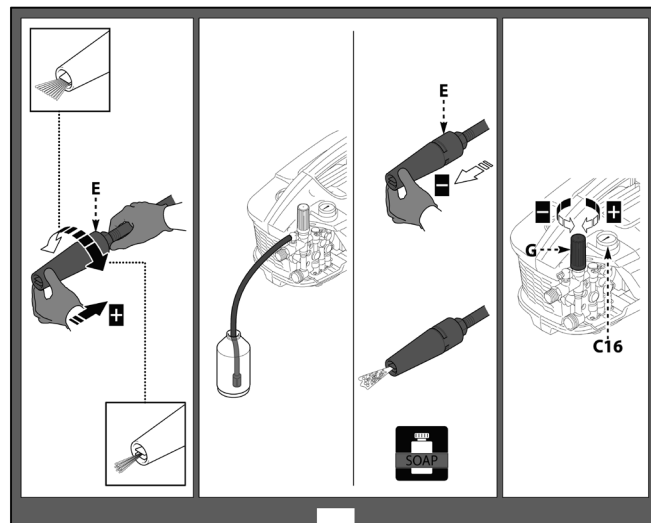

Fig.5
- 4.10. The trigger has a safety lock incorporated. To engage it, clip the lock into depression on the handle. To unlock, unclip the lock from handle (fig.5 D, I, fig.1 D).
- 4.11. To adjust the nozzle spray pattern, rotate the lance nozzle as shown in fig.5 E.
- 4.13. **TRIGGER** has a safety lock. To engage: clip the lock into the depression on the handle. To release: unclip the lock from the handle (fig.5 D, I, fig.1 D).
- 4.14. **NOZZLE SPRAY PATTERN ADJUSTMENT** rotate the lance as shown in fig.5 E.
- 5.2. Release the safety catch (fig. 5 D, I, fig.1 D).
- 5.7.3. Engage the safety catch (fig. 5 D, I, fig.1 D).
- 5.8.1. Release the safety catch (fig. 5 D,I, fig.1 D).